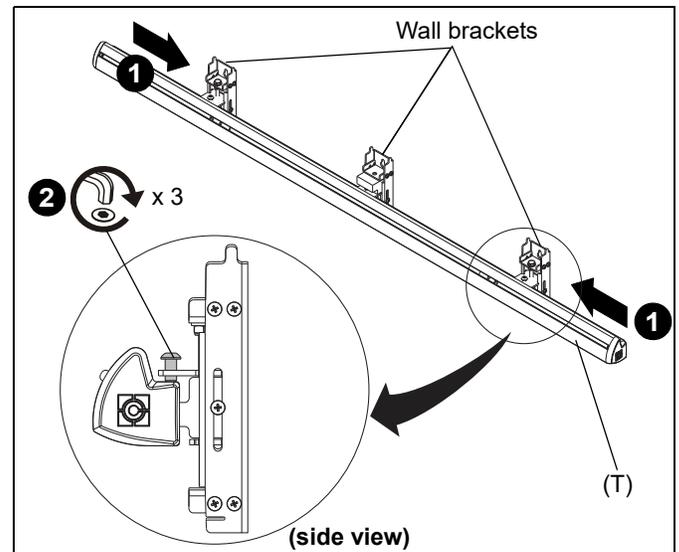

Figure 3
1. Slide outside wall brackets along wall assembly (T), as required, for the wall substrate. (See Figure 3)
2. Tighten button head cap screw on each wall bracket to secure wall brackets to wall assembly. (See Figure 3)